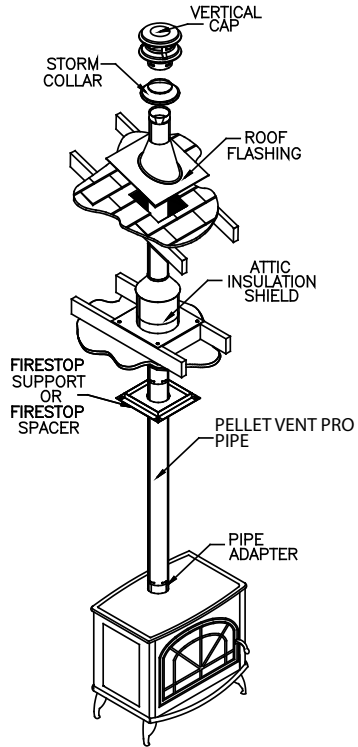

Figure 1
2. If the vent exit is on top of the stove (*Figure 1*):